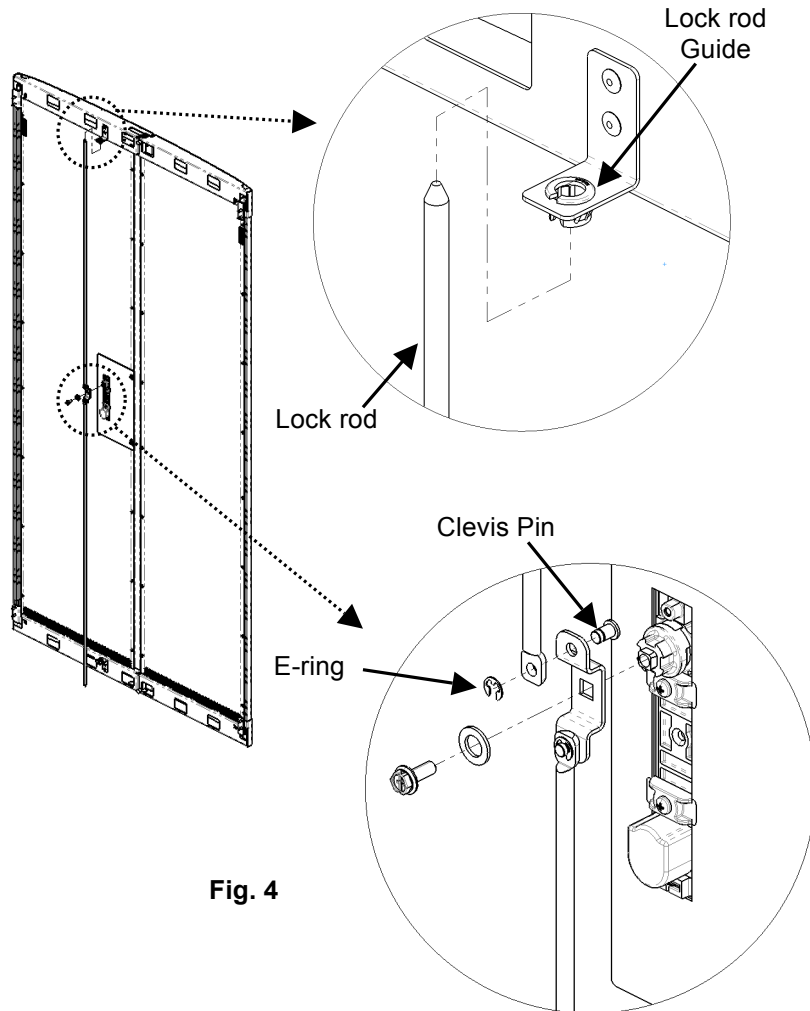

Fig. 4
8. Insert the lock rods through the guides with the short rod on top and the long rod on bottom (Fig. 4).
9. Insert the cam assembly pins through the short rod (on top) and the long rod (on bottom), then through the other half of the cam assembly and lock it using an E-ring (Fig. 4).